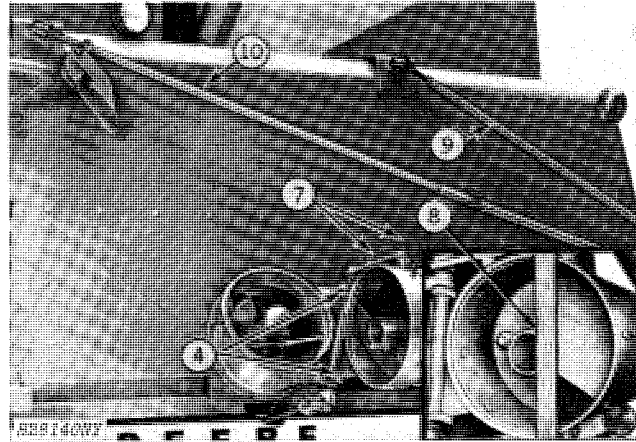

Fig. 17-Installing Unloading Auger
4. Position outer hinge inside inner hinge (Fig. 17).
7. Loosen two cap screws and insert hinge pin through hinges (Fig. 17). With pin holes aligned, slide hinge pin into swing arm and install a 3/16 x 1-3/4-inch spring pin. Tighten cap screws.
8. Place a straight edge ruler across open end of housing (Fig. 17). Auger tube must be flush with housing. Add or remove 49/64 x 1-1/2 x .134-inch flat washers between bearing and end of auger for correct adjustment.
9. Attach auger support rod (Fig. 17). Adjust rod until locking stud fits freely in transport support.
10. Attach upper end of the telescoping auger braces with a drilled pivot pin and a 3/16 x 1-1/2-inch spring pin (Fig. 17). Attach the lower end of the braces with a 1/2 x 2-1/4-inch drilled pin and a 3/16 x 1-inch cotter pin.